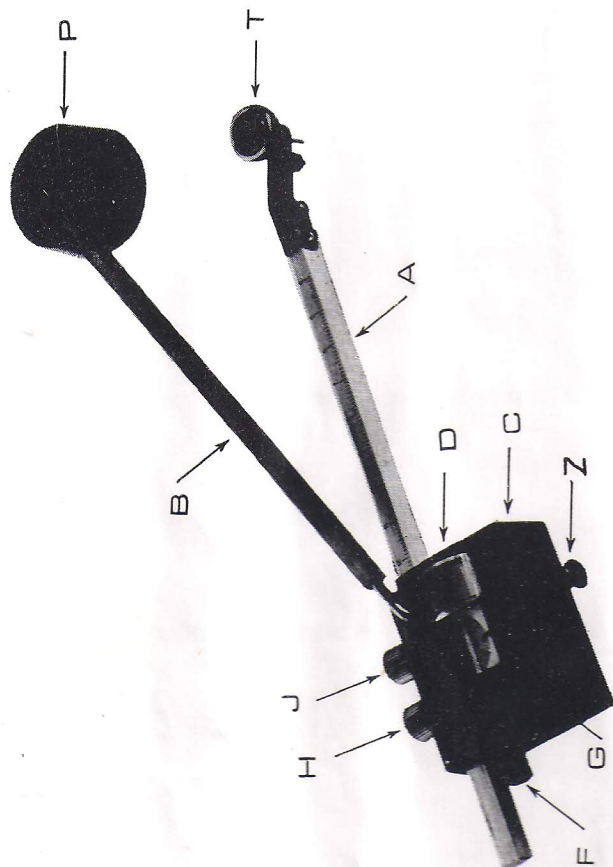
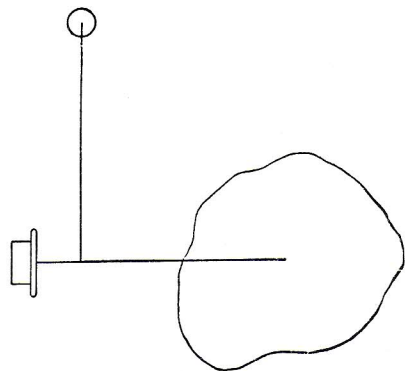
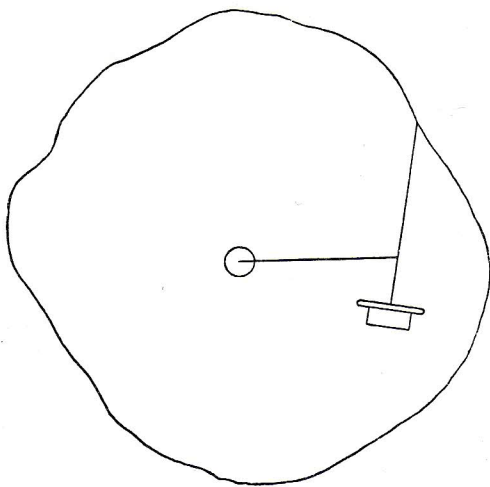

Fig. 1
Fig. 3
Fig. 4
Fig. 1 is a general view of the instrument, showing the following essential features:
THE MEASURING WHEEL, W to which is attached the divided drum D and to which is geared a COUNTING DIAL G for recording the number of revolutions. See Fig. 1 A.
- (a) The complete revolutions shown by the counting dial (G, Fig. 1);
The Planimeter can be used with the pole weight either outside or inside the area to be measured, as shown in diagrams Fig. 3 and Fig. 4, but wherever possible it should be used with the pole outside, as this is the more accurate and less complicated method.
Assemble the instrument as in Fig. 1 and place on the area to be measured in such a way that with the tracer in the middle of the area, the pole arm is approximately at right angles to the tracer arm (see Fig. 3).
Example 1—Suppose the scale of the plan is 1 : 200 and area is required in sq. metres. Set the carriage on the tracer arm to 15.50, the setting for this scale obtained from the tables (see para. 2). Dispose the instrument correctly about the area (see Fig. 3). Lightly trace round the area and find a good starting-point. Set to zero, trace round the area and note the reading (say 2.125).